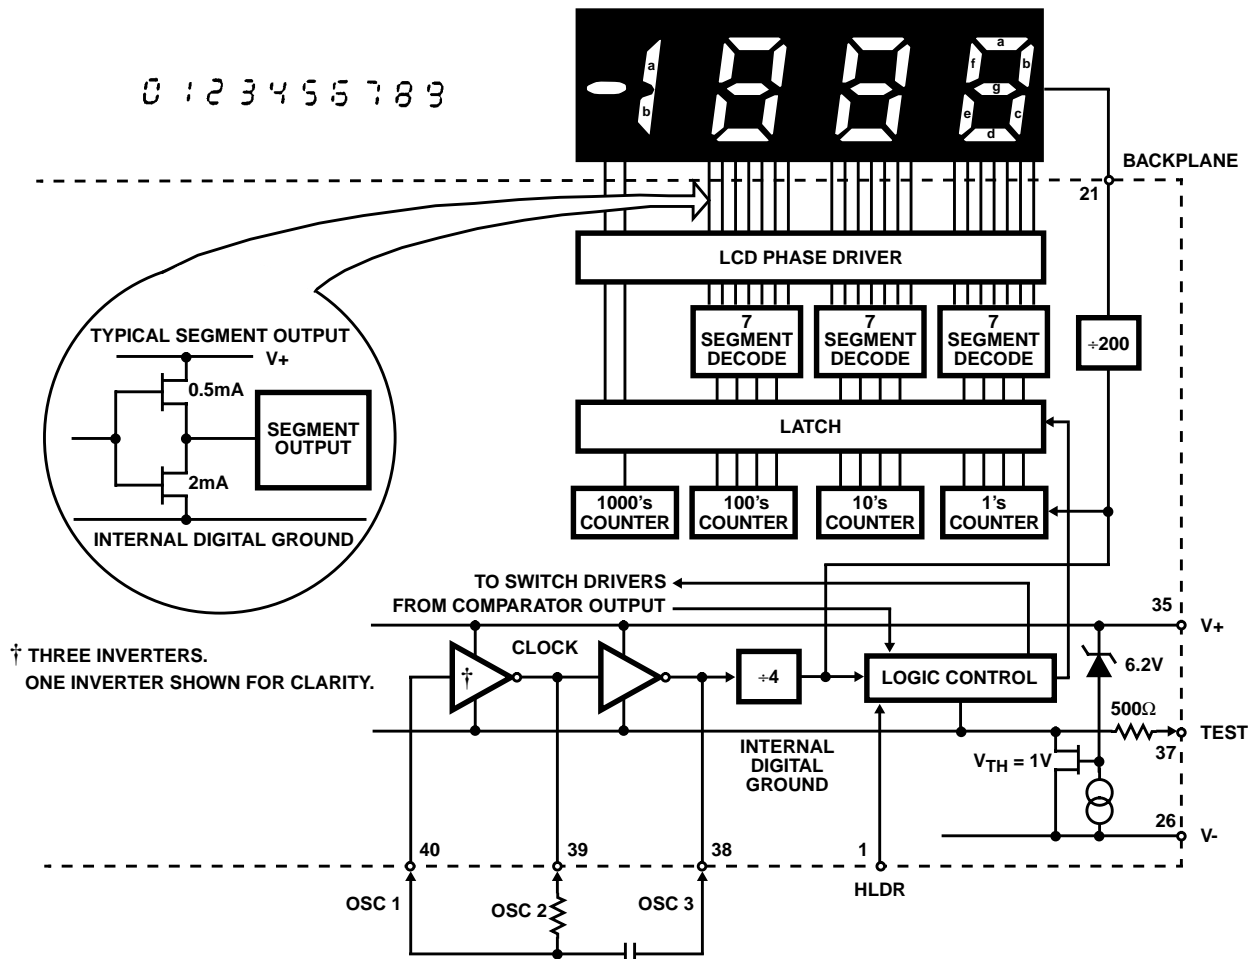

FIGURE 8. DIGITAL SECTION
Figure 8 shows the digital section for the ICL7126. An internal digital ground is generated from a 6V Zener diode and a large P-Channel source follower. This supply is made stiff to absorb the relative large capacitive currents when the back plane (BP) voltage is switched. The BP frequency is the clock frequency divided by 800. For three readings/second this is a 60Hz square wave with a nominal amplitude of 5V. The segments are driven at the same frequency and amplitude and are in phase with BP when OFF, but out of phase when ON. In all cases negligible DC voltage exists across the segments. The polarity